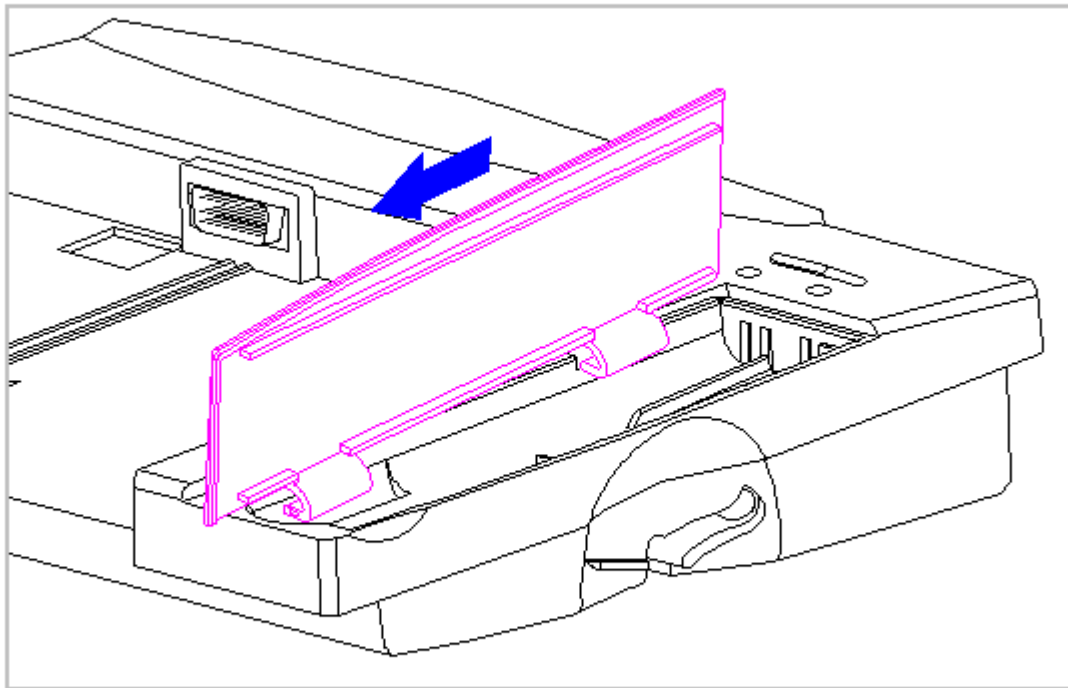

Figure 3-194. Removing the Battery Door from the Docking Base (All Models)
4. Remove the battery door from the docking base (Figure 3-194).